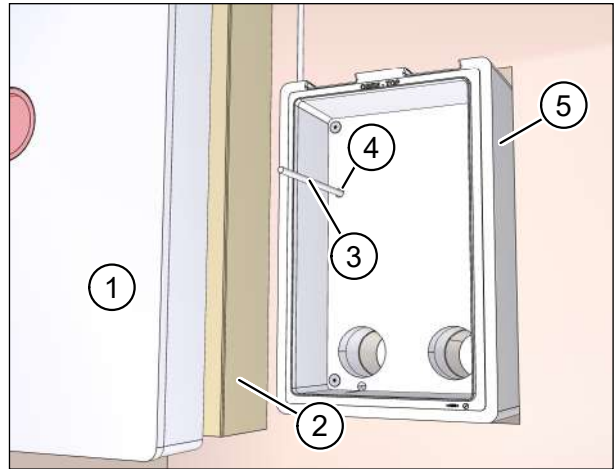

Fig. 19: Inserting the wall box
- ▶ Remove the plaster cover (item 1 in Fig. 19) from the wall box (item 5 in Fig. 19).
- ▶ Remove the cardboard insert (item 2 in Fig. 19) from the wall box (item 5 in Fig. 19).
- ▶ Thread the mains cable and the control cable, if required (item 3 in Fig. 19), through the cable inlet in the wall box (item 4 in Fig. 19).
- ▶ Push the wall box (item 5 in Fig. 19) fully into the wall breakthrough.